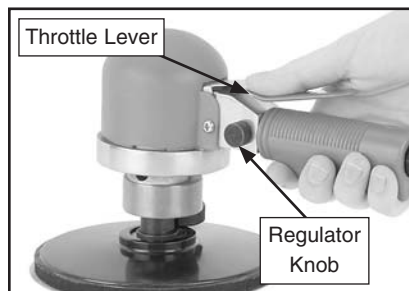

Figure 10. Sander controls.
2. Hold the sander and press the throttle lever (**Figure 10**).
3. Turn the regulator knob (**Figure 10**) to adjust the speed of the sanding disc.